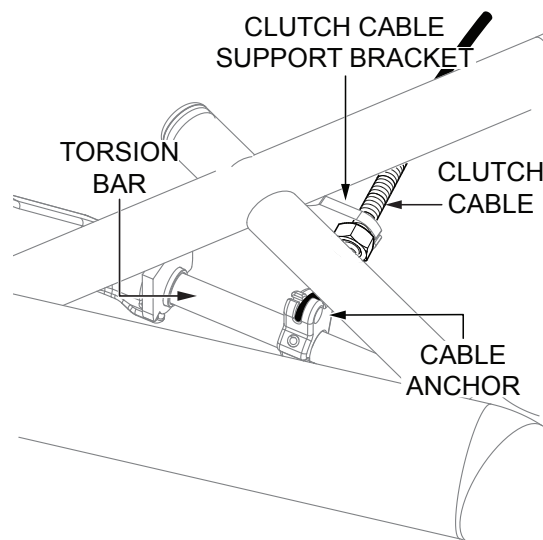

**Figure 12. Cable Yoke Attachment**
- Insert the blade pitch cable end through the yoke eyelet (Figure 12). Tighten brass set nut #1 by hand to remove all slack from the cable.